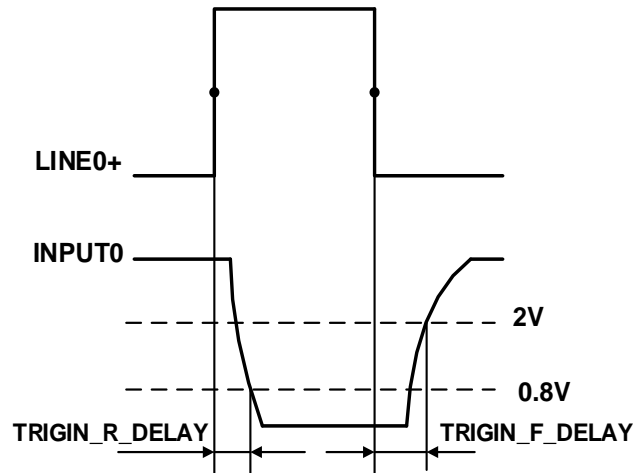

Figure 7-15 Parameter of opto-isolated input circuit
- Rising edge delay:  $<50\mu\text{s}$  ( $0^{\circ}\text{C}\sim 45^{\circ}\text{C}$ ), parameter description as shown in Figure 7-15
- Falling edge delay:  $<50\mu\text{s}$  ( $0^{\circ}\text{C}\sim 45^{\circ}\text{C}$ ), parameter description as shown in Figure 7-15
- Input rising time delay:  $<2\mu\text{s}$  ( $0^{\circ}\text{C}\sim 45^{\circ}\text{C}$ ), parameter description as shown in Figure 7-15
- Input falling time delay:  $<2\mu\text{s}$  ( $0^{\circ}\text{C}\sim 45^{\circ}\text{C}$ ), parameter description as shown in Figure 7-15